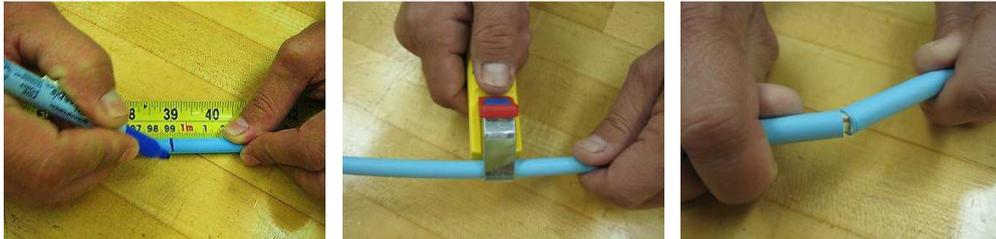

Figure 1 – Ring cut and separate the cable jacket.
4.1 Mark the cable jacket at the required breakout length. Ring cut the cable jacket at the mark and flex the cable to snap the jacket (Figure 1).